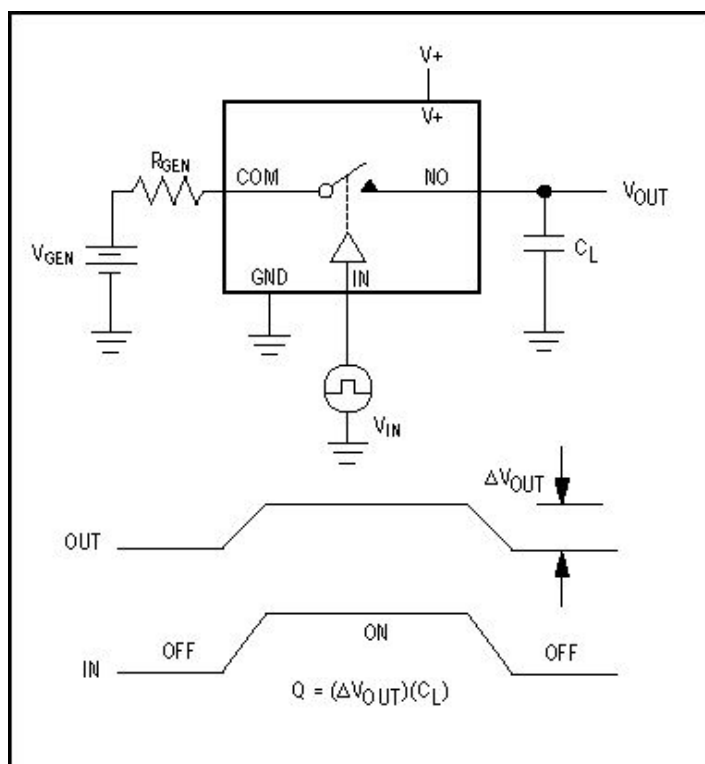

Figure 4. Charge injection from the switch-control signal causes a voltage error at the analog output.
As mentioned above, low R_{ON} is not necessary in all applications. Lower R_{ON} requires greater chip area. The result is a greater input capacitance whose charge and discharge currents dissipate more power in every switching cycle. Based on the time constant $t = RC$, this charging time depends on load resistance (R) and capacitance (C). It normally lasts a few tens of nanoseconds, but low- R_{ON} switches have longer-duration on and off periods. High- R_{ON} switches are faster. Another negative consequence of low on-resistance can be the higher charge injection caused by higher levels of capacitive gate current. A certain amount of charge is added to or subtracted from the analog channel with every on or off transition of the switch (**Figure 4**). For switches connected to high-impedance outputs, this action can cause significant changes in the expected output signal. A small parasitic capacitor (C_L) with no other load adds a variation of ΔV_{OUT} , so charge injection can be calculated as $Q = \Delta V_{OUT}C_L$.